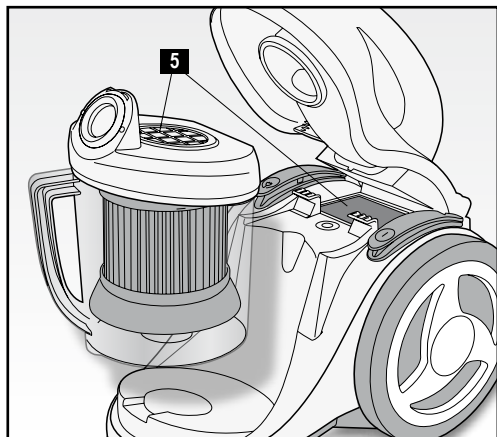

Fig. 6
- Internal filters. These are normal plastic fibre filters. To clean them, remove them and rinse in warm water and then refit them once they are perfectly dry (5 - Fig. 6). The filter in the container lid must be removed from the part under the lid.